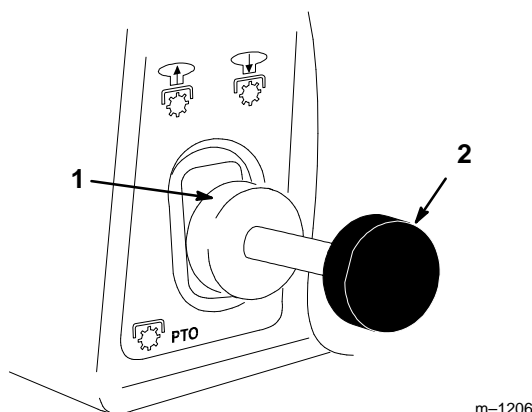

Figure 7
2. Pull the power take off (PTO) to “ON” (Fig. 7).
2. Push the power take off (PTO) to “OFF” (Fig. 7).